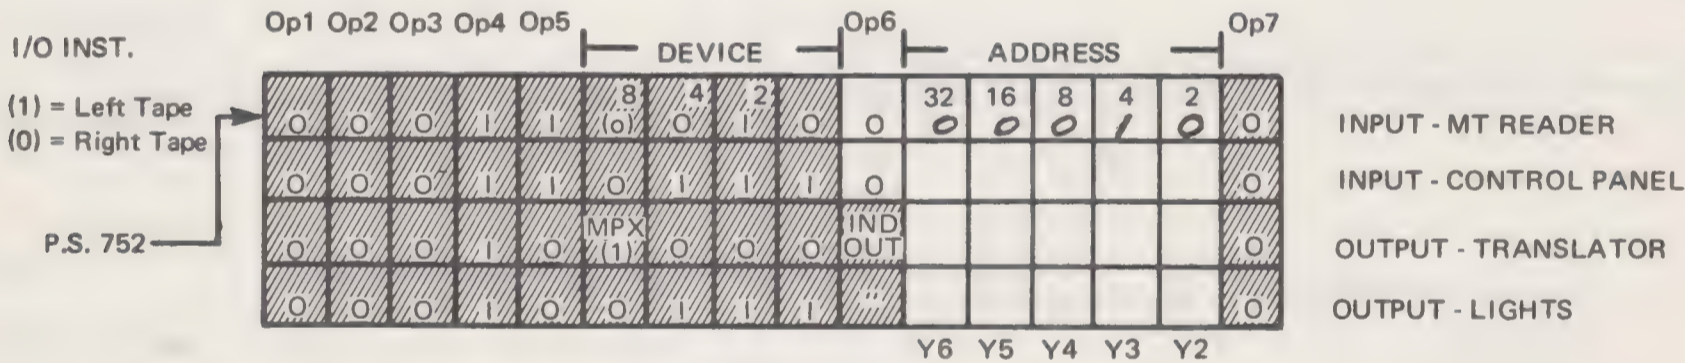

Figure 4
- The next program step that must be performed is to input a character from the Tape Reader to one of the 32 low order working registers (Reg. 4). The input program step located at register 752 will appear in memory as illustrated in Figure 4.